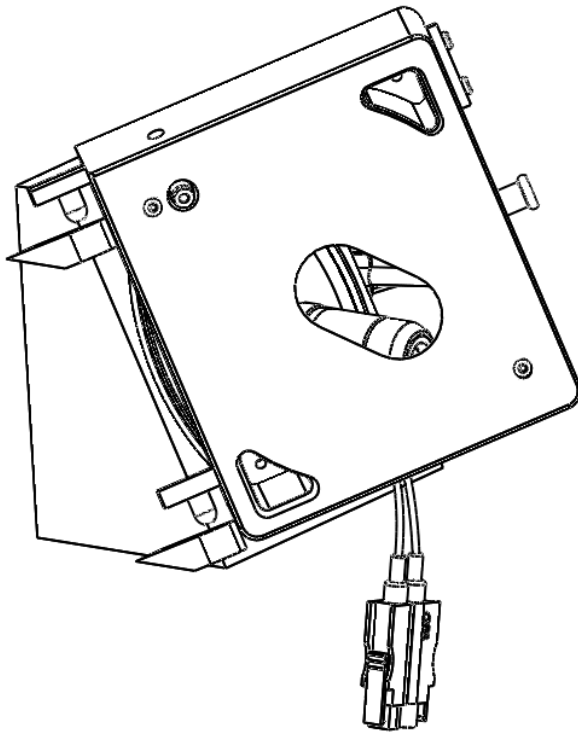

Figure 7: Hooking of SICRIT® Interlock on the MS interface.
- Hook on the interlock by placing the mounting bolts in the guides of the MS (see Fig. 7).